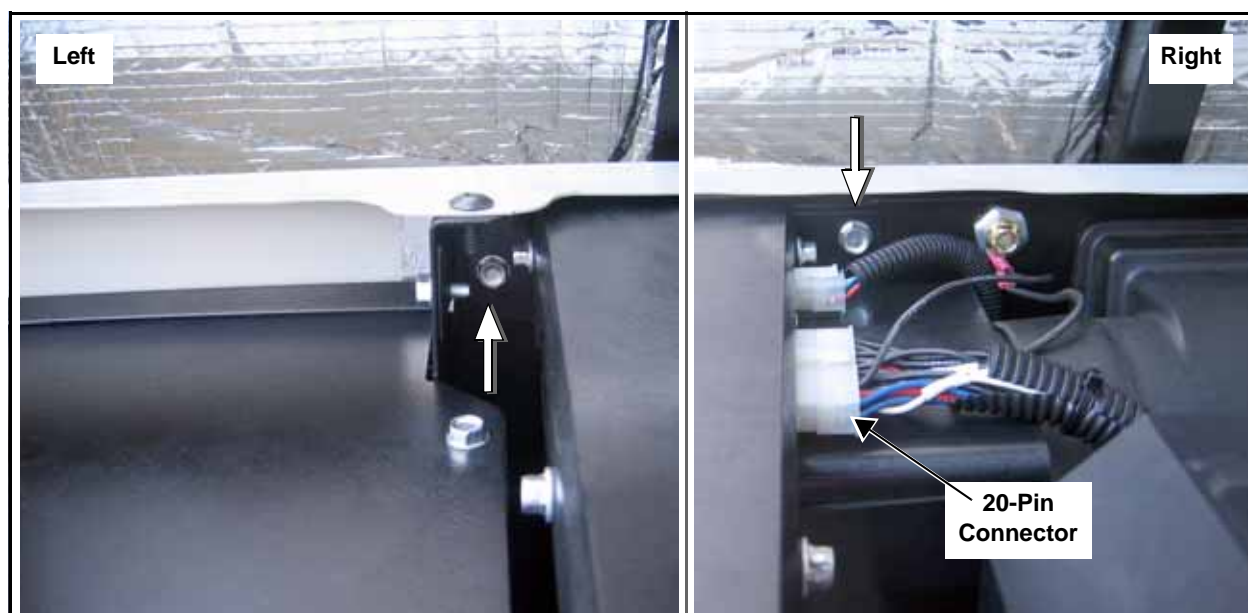

Figure 4-12. Remove AVR Bracket Screws
4. Remove two screws to release AVR brackets from back panel. See Figure 4-12.